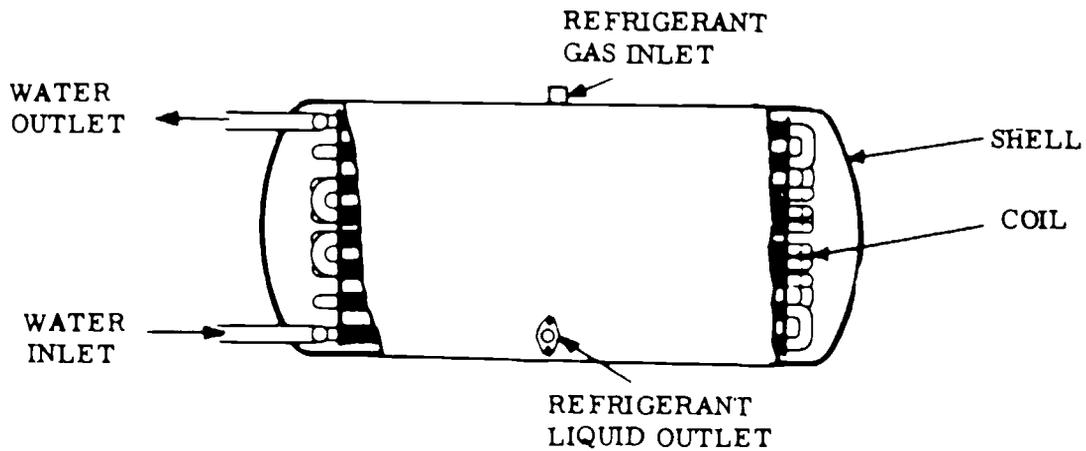

Figure 9 Shell and Coil Water Cooled Condenser
**SHELL AND COIL CONDENSER.** The shell and coil condenser consists of a welded shell containing a finned water coil. The refrigerant is between the shell and coil and the water is inside the coil. The water must be reasonably clean and free from minerals since the coil must be cleaned by chemicals circulated in the water. (See figure 9.)